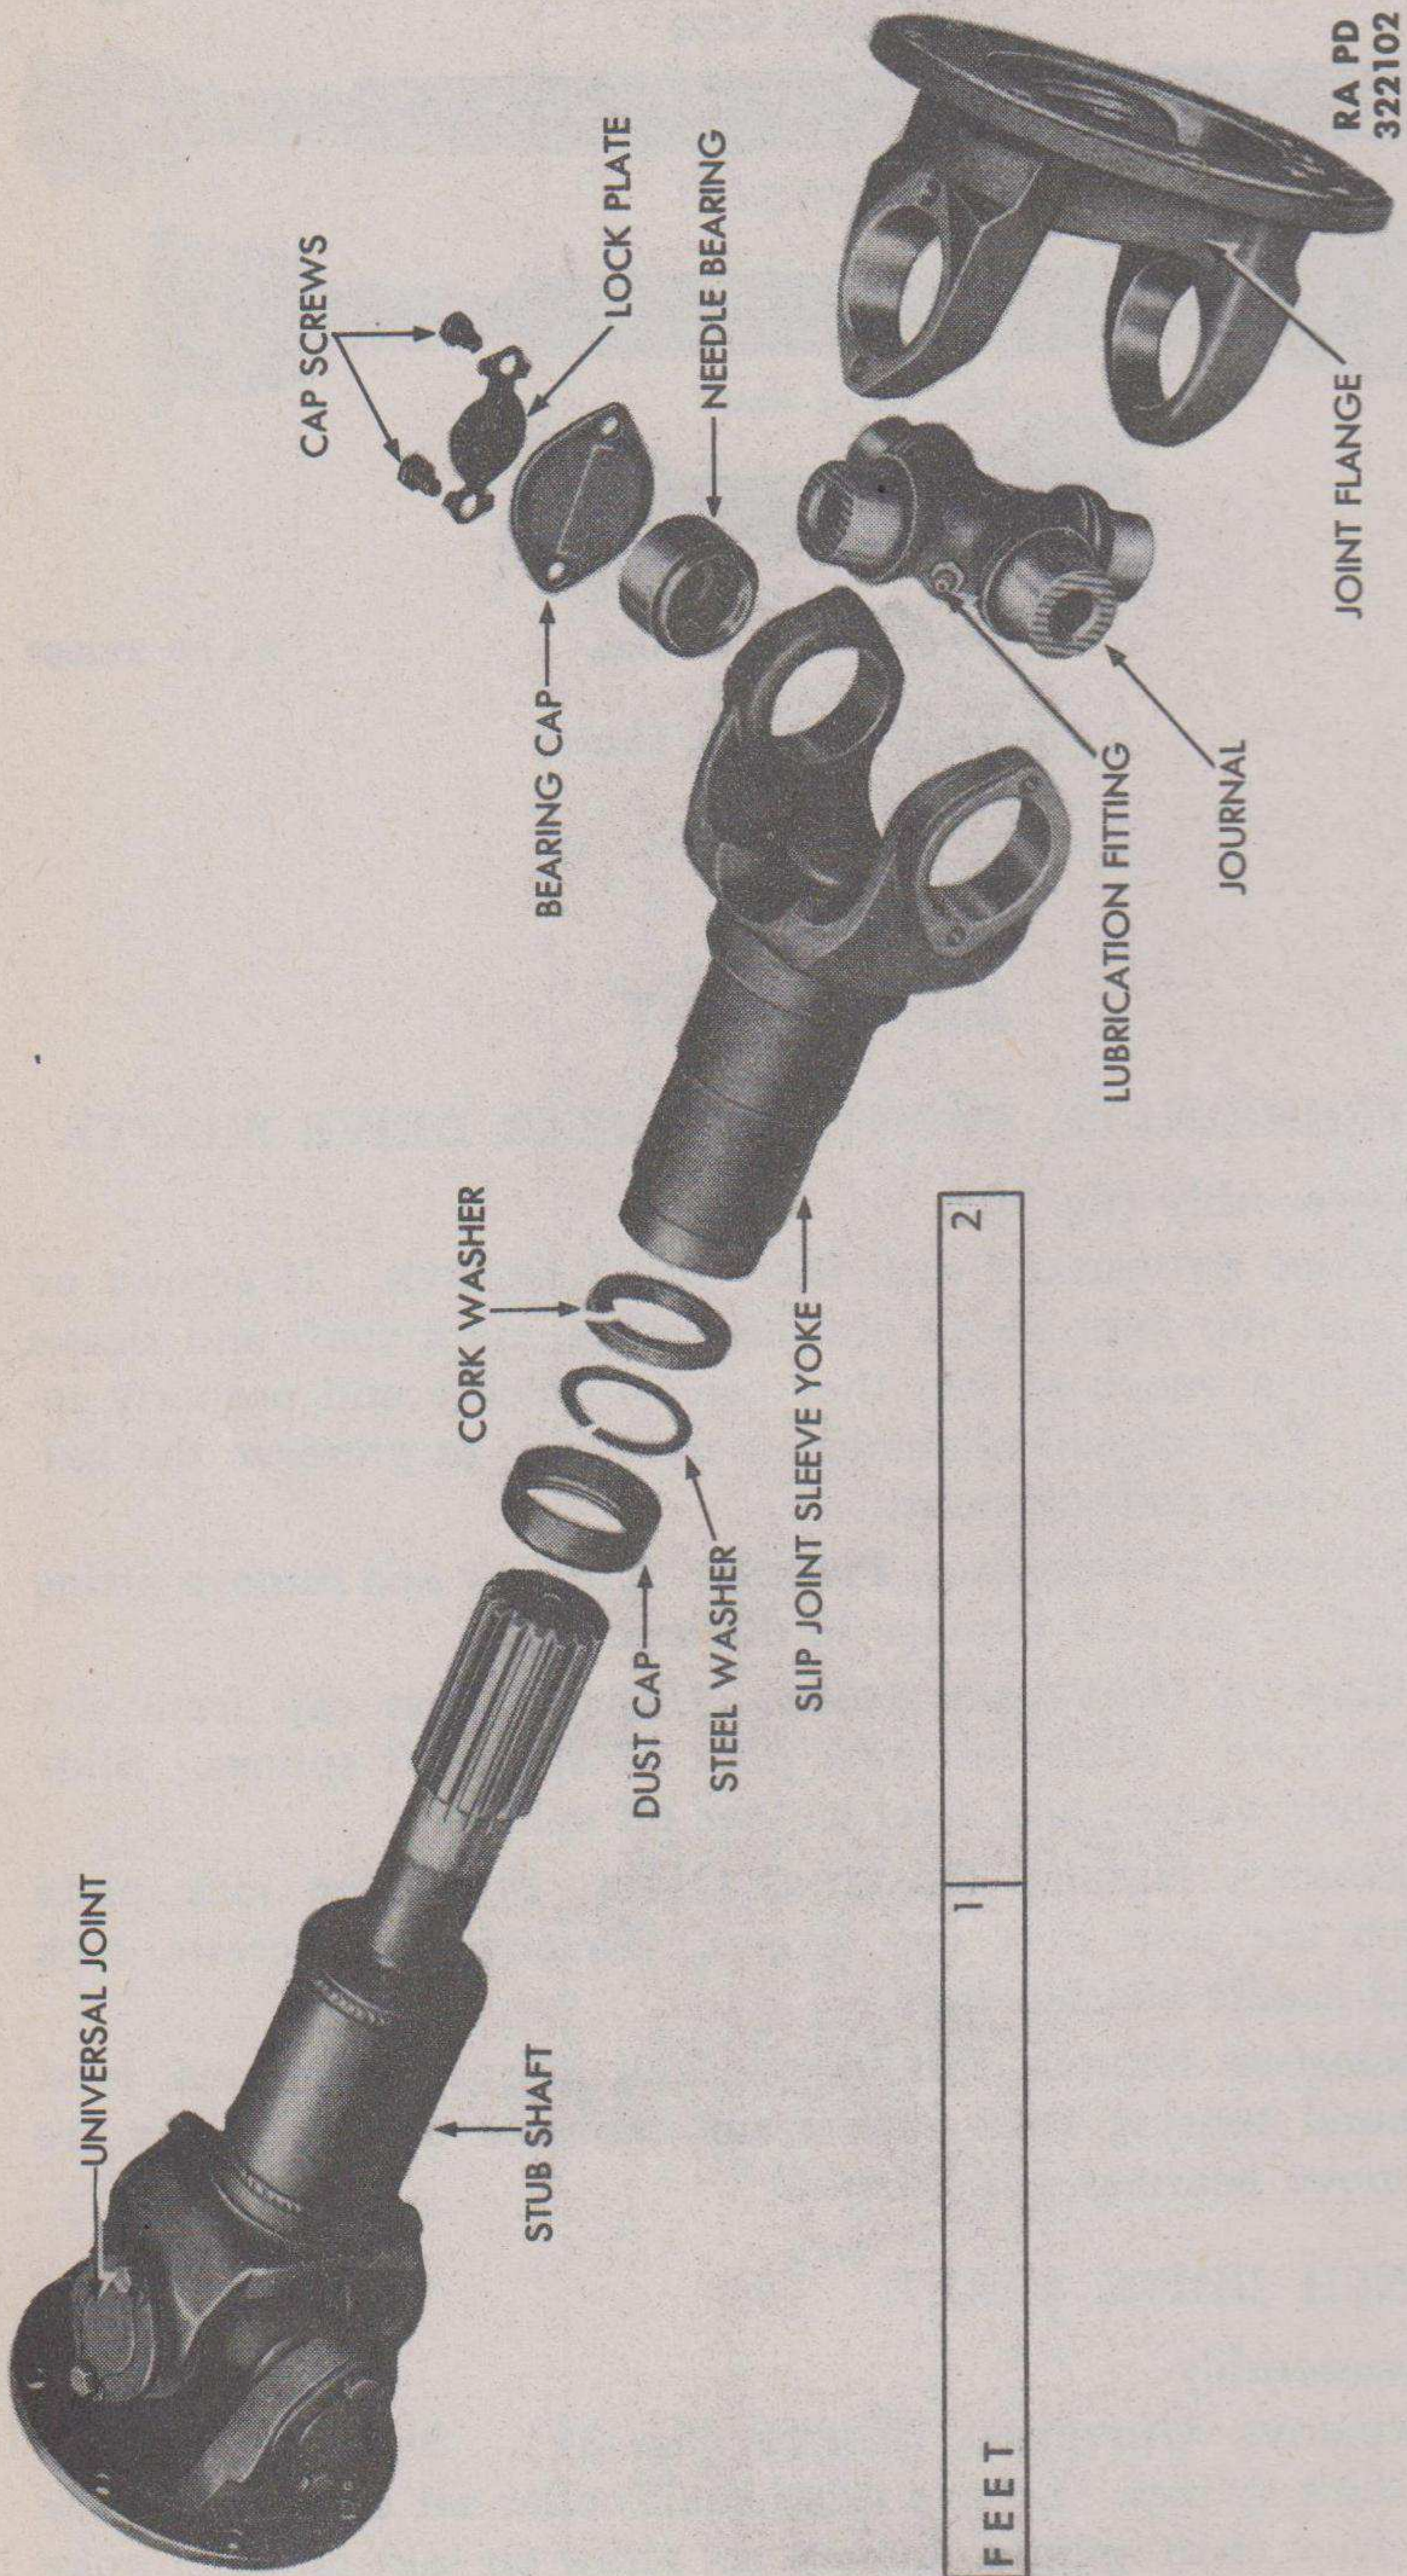

Figure 30 — Intermediate Drive Shaft Universal Joint Disassembled
a. Disassembly (fig. 30).
(1) **INSTALL JOURNAL AND BEARINGS INTO JOINT FLANGE** (fig. 30). Position journal in yoke of joint flange. After lubricating bearings, tap them into position in joint flange and onto bearing surfaces of journal. Install bearing caps, lock plates, and cap screws. Bend ends of lock plates over cap screw heads.
(2) **INSTALL SLIP JOINT SLEEVE YOKE** (fig. 30). Position joint flange with installed journal in slip joint sleeve yoke. Tap bearings into seats in yoke and onto remaining two bearing surfaces of journal. Install bearing caps, lock plates, and cap screws. Bend ends of lock plates over cap screw heads.
(3) **ATTACH ASSEMBLY TO STUBSHAFT** (fig. 30). Slide dust cap and steel and cork washers on splines of stubshaft. Line up arrows or marks on stubshaft and slip joint sleeve and insert spline into sleeve. Thread dust cap on end of slip joint sleeve.
(4) **INSTALL LUBRICATION FITTING** (fig. 30). Thread fitting into opening in journal.